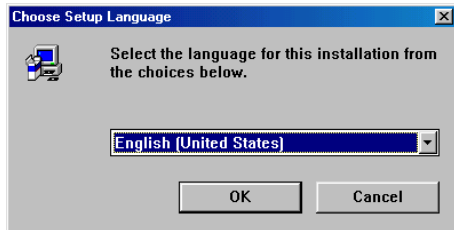

Figure 10: Installing PhotoExpress 2.0
2. The CD-ROM will start automatically. Figure 10 will be displayed on your monitor. Continue from point 5. If the CD-ROM does not start automatically, then it must be started manually.
4. In the command line, type [D:\SETUP.EXE] and click on 'OK' to start the program. Figure 10 will appear.